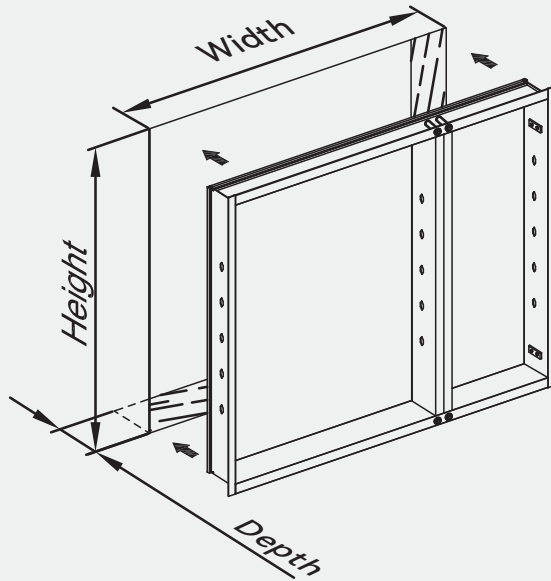

Fig 3
2. Make sure the hinges are on the correct side of the opening for left-hand or right-hand operation. Place the cabinet box into the rough opening. For fully recessed installations, ensure that the cabinet flange covers the rough opening evenly all around (Fig 3). For semi-recessed applications, the mirror edges should align with the wall surface (Fig 4). Use shims as needed.